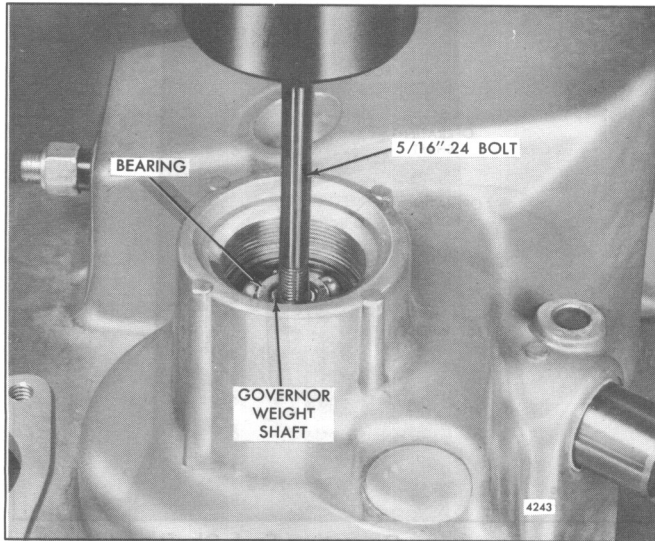

Fig. 11 – Removing Governor Weight Shaft Assembly from Governor Housing
- d. Thread a 5/16"-24 x 3" bolt into the bearing retaining bolt hole. Support the governor housing on the bed of an arbor press and press the governor weight shaft from the bearing (Fig. 11).